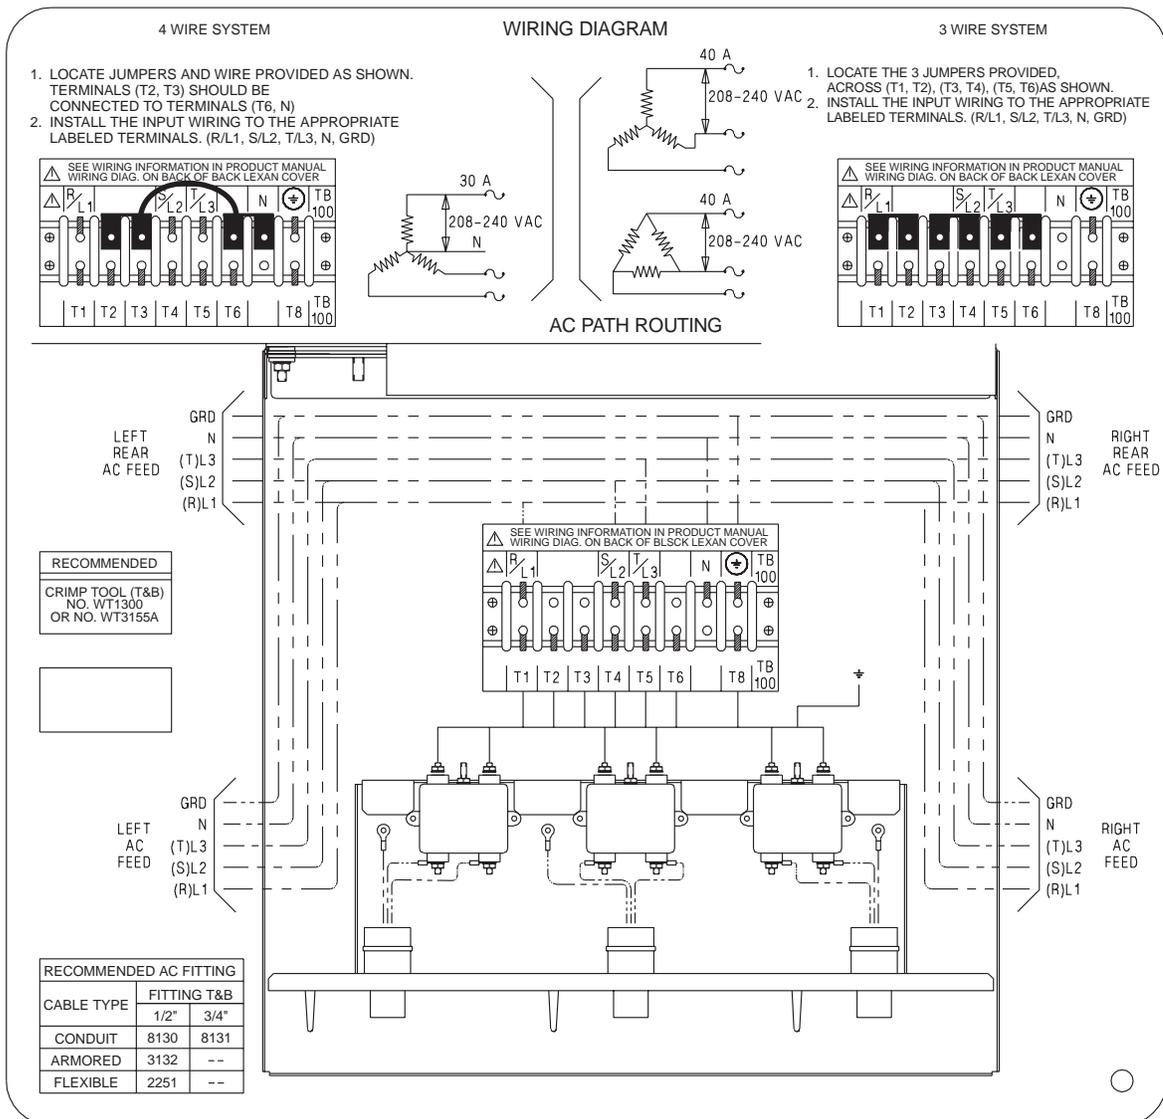

Figure 5-1: RHA Wiring Instructions
7. This unit has been evaluated for maximum 240VAC phase-to-phase and phase-to-earth voltages as shown on the wiring diagram on the product. (Refer to Figure 5-1.)
- Crimp tools (See Figure 5-1 for details)
6. Route wiring for RHA positions 1 and 2 down the left channel and RHA positions 3 and 4 down the right channel as required. Route ac wiring into RHA through the black snap bushings. Connect to RHA as shown in Figure 5-1.
1. Add two jumpers (848265195) across T2, T3 and T6, N terminals of the terminal block, and the wire set (847031738) across T3, T6 (see Figure 5-1).
3. Install (R/L1,S/L2,T/L3,N,GRD) to the labeled terminals using the 901240945 slot hex head shakeproof screws supplied (see Figure 5-1).
1. Locate the three jumpers provided (848265195) across (T1,T2)(T3,T4)(T5,T6) by using three 901240945 screws in positions T2, T3, T6 to secure jumpers in place (See Figure 5-1).